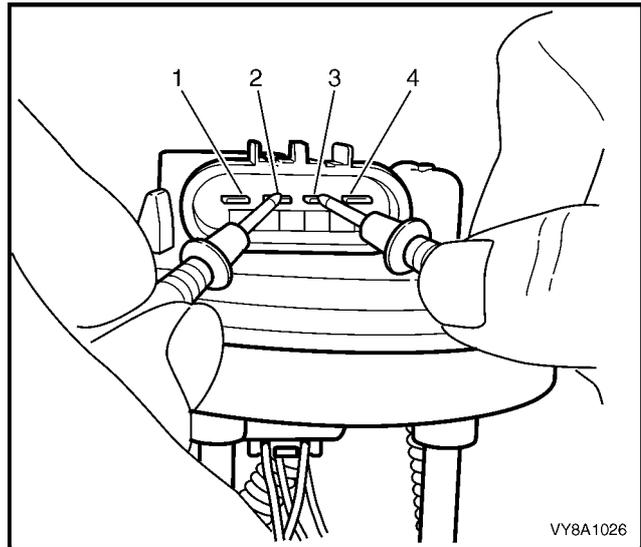

Figure 8A1 – 69
- 1 Fit a new O-ring (3) to the modular fuel pump and sender assembly, refer to Figure 8A1 – 68.
- 4 Install the modular fuel pump and sender assembly retainer lock ring (1).